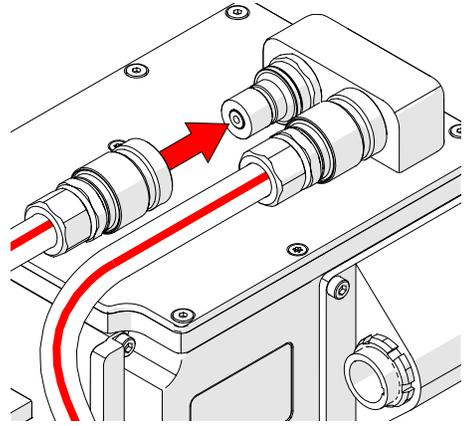

Fig. 41 - Connect hoses to raster arm
2. Connect the hose fittings to the Raster Arm HT's quick connect fittings (*Fig. 41*).